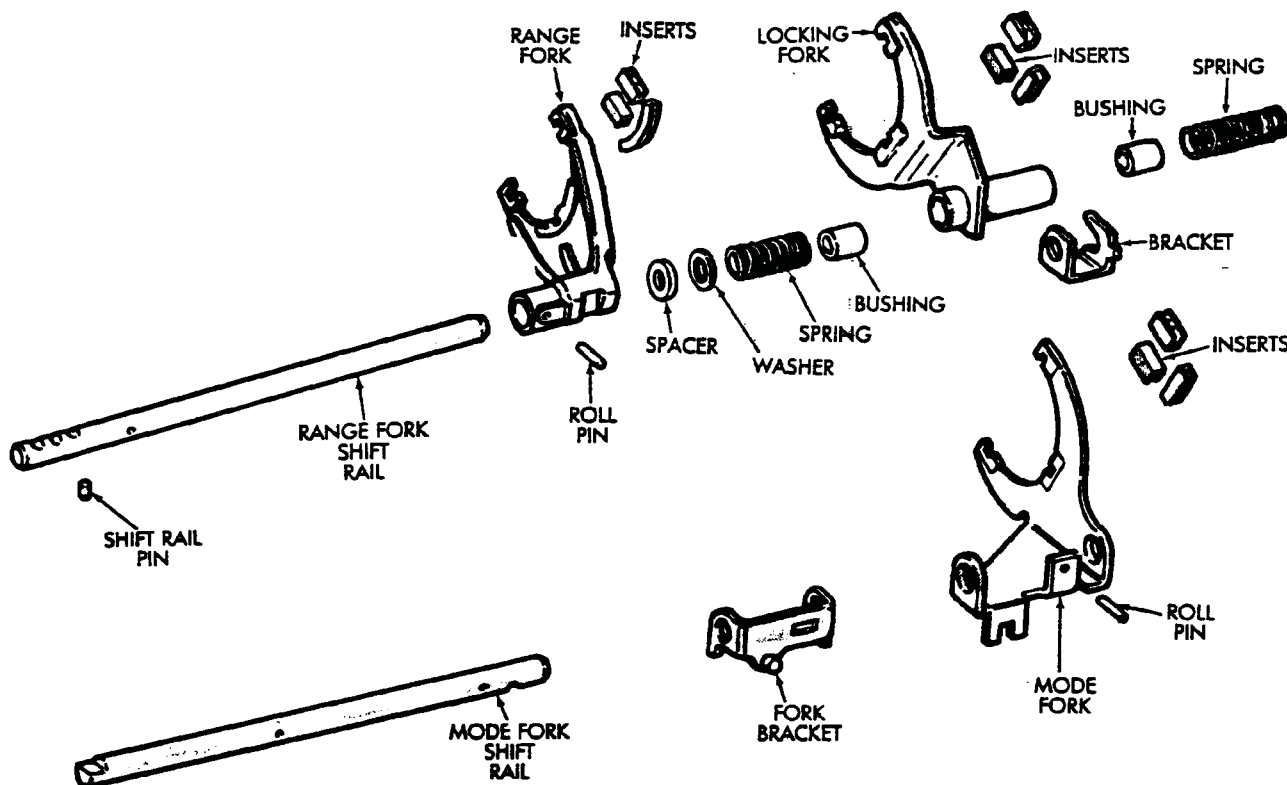

Fig. 4-49 Shift Fork Assemblies
39. Assemble the shift forks and rails (Fig. 4-49).